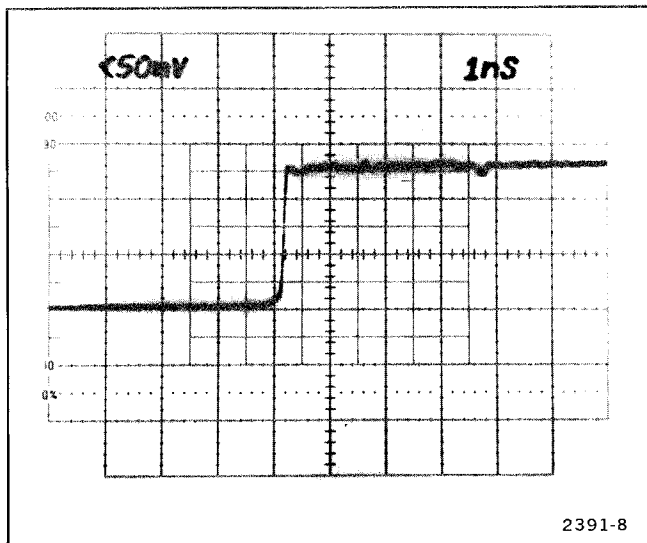

Figure 5-2. Approximately 2.5 division pulse obtained in step 11f.
- 6) Adjust the 7T11 Trigger Level, Stability, and Time Position to obtain approximately 2.5 division of pulse as shown in Figure 5-2.